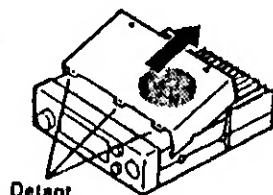

Fig. 1
2. Carefully remove the top cover.(Fig. 1)